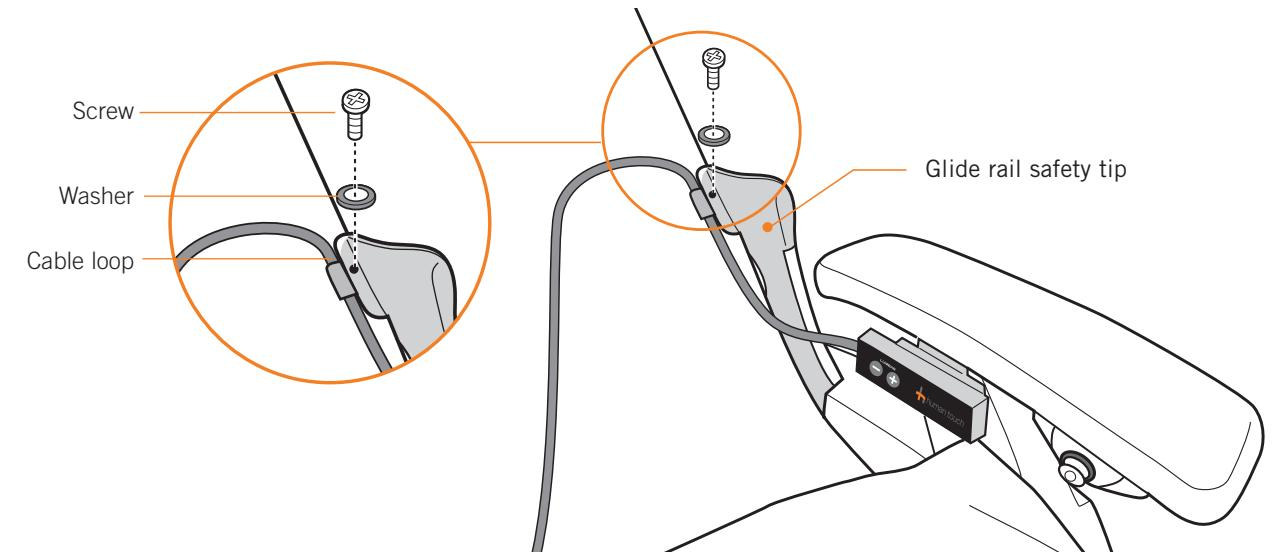

Fig.6
8. Using a Phillips-head screwdriver, remove the screw and washer that secure the left-hand glide rail safety tip (Fig.6).
9. Place the control panel cable loop into position over the screw hole, then replace the screw and washer to secure it. (Fig.6).